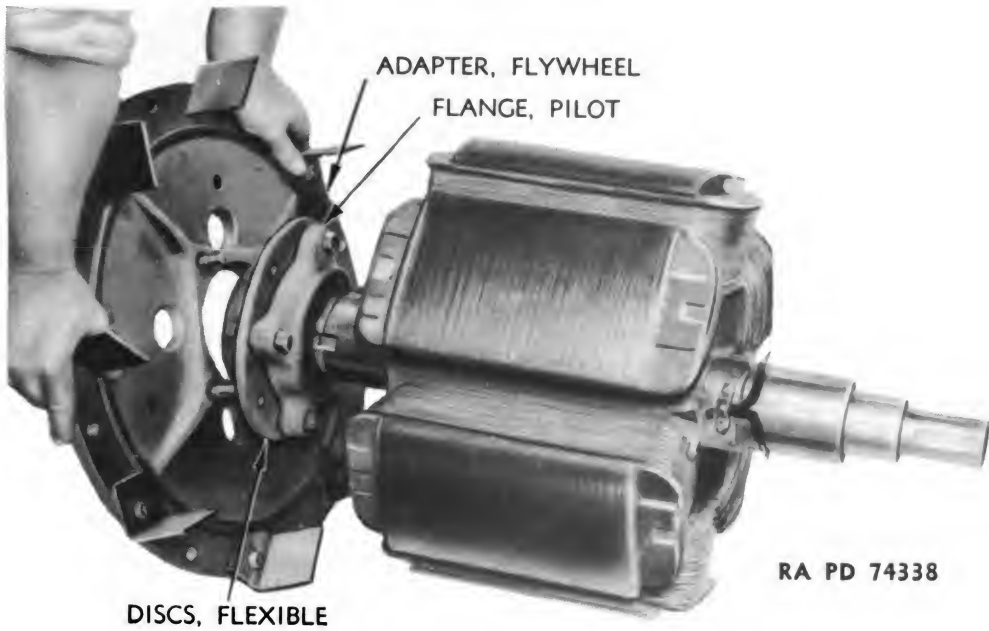

Figure 184 — Flexible Coupling Flywheel Adapter Removal
(8) Take out nuts holding flywheel adapter to the flexible disks, and remove adapter (fig. 184).